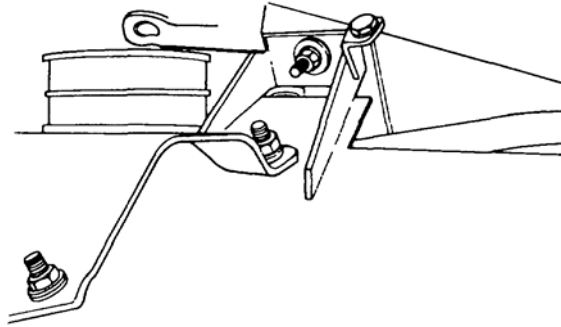

Figure 20 Front Body Mounting
- ww. Remove the bolts securing the front body mountings to the chassis brackets (Figure 20).
- g.** Install the bolts securing the front body mountings to the chassis brackets (Figure 20) and tighten them securely.